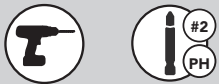

FIGURE 7.1
Attach each side mounting bracket to the inside of the cabinet using (3) #6 x 5/8" flat head screws. Put the brackets flush with the edge of the cabinet (See Figure 7.1).